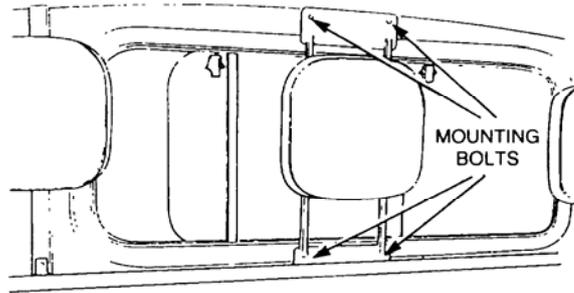

Figure 11 Rear Seat Centre Head Restraint Removal
- b. Remove the frame from the cab wall (refer Figure 11).